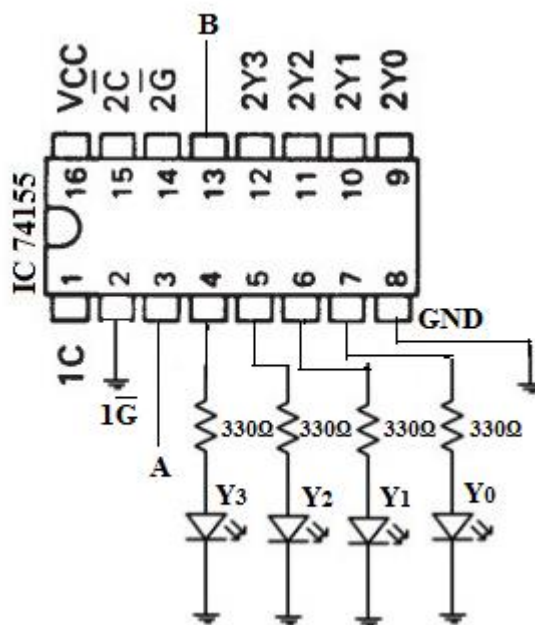

Figure 7.6 Circuit diagram for first 1:4 Demultiplexer of IC74155
5. Make the connections as per the circuit diagram given in Figure 7.6.